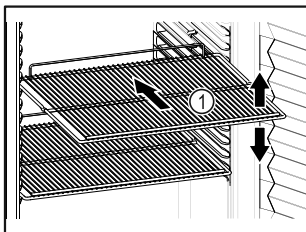

Fig. 50 Example illustration
- ❑ If there are adjustable shelves Fig. 50 (1), position them as required.